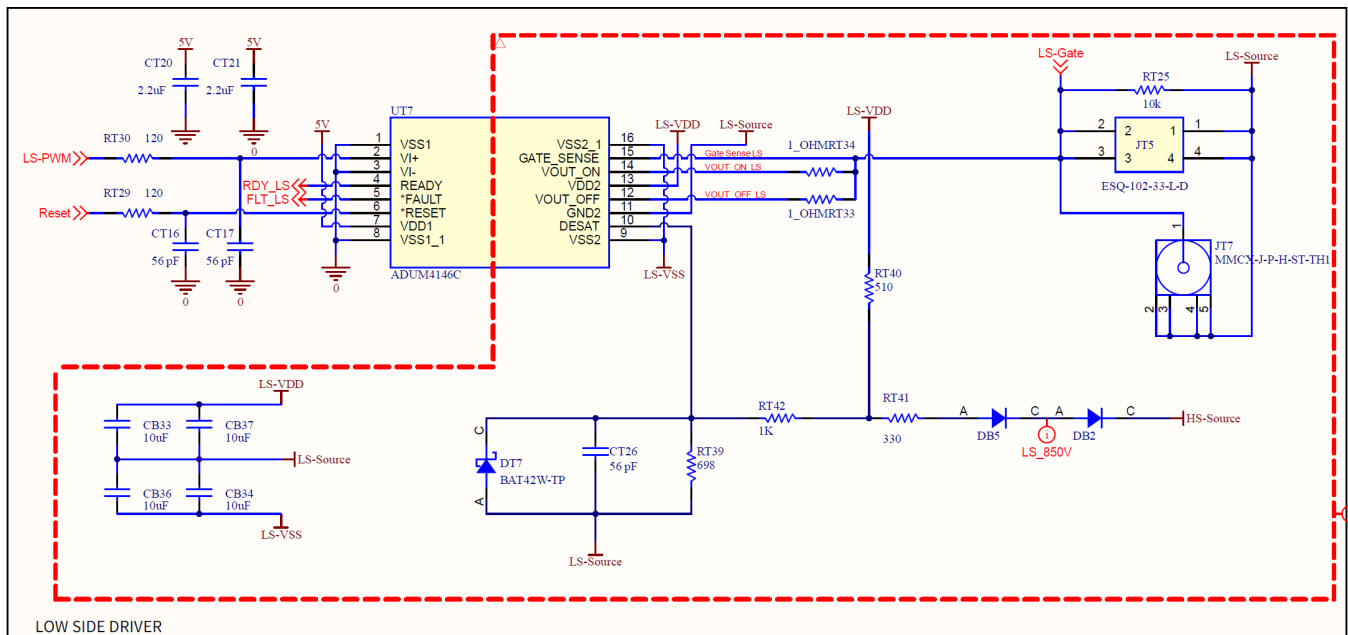
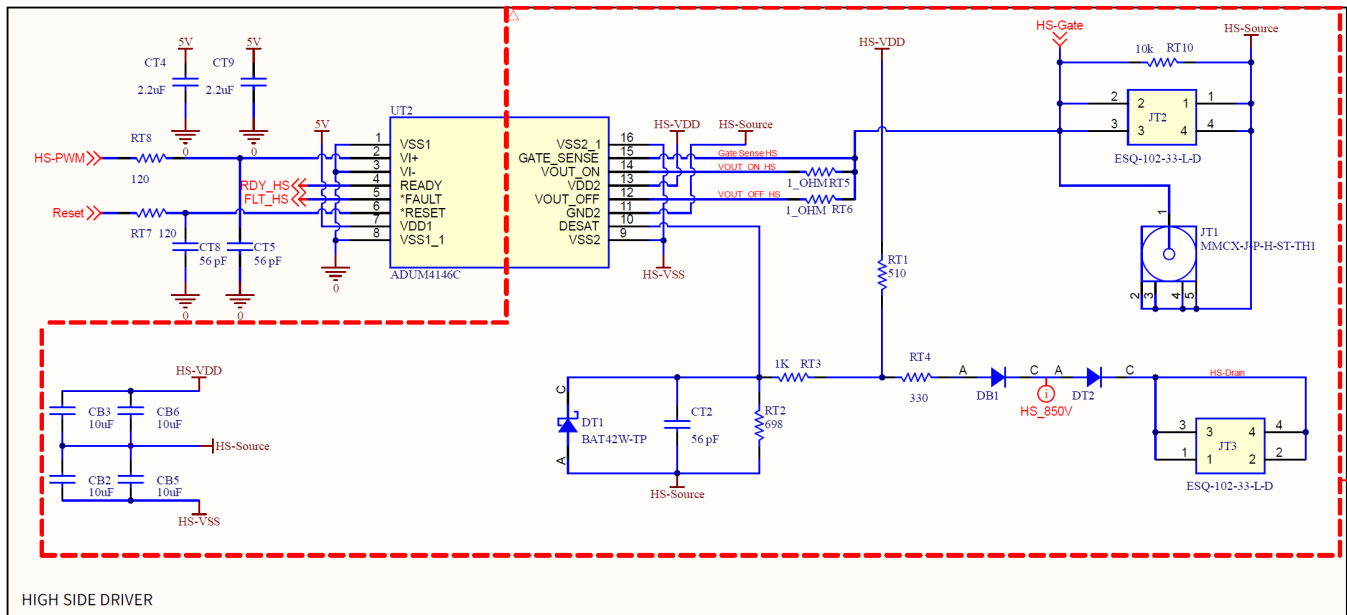
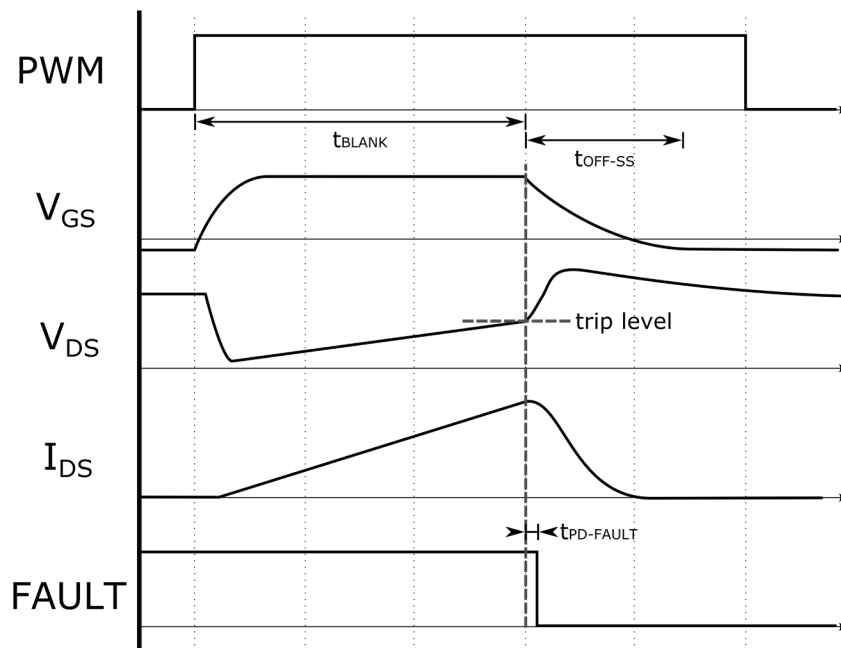
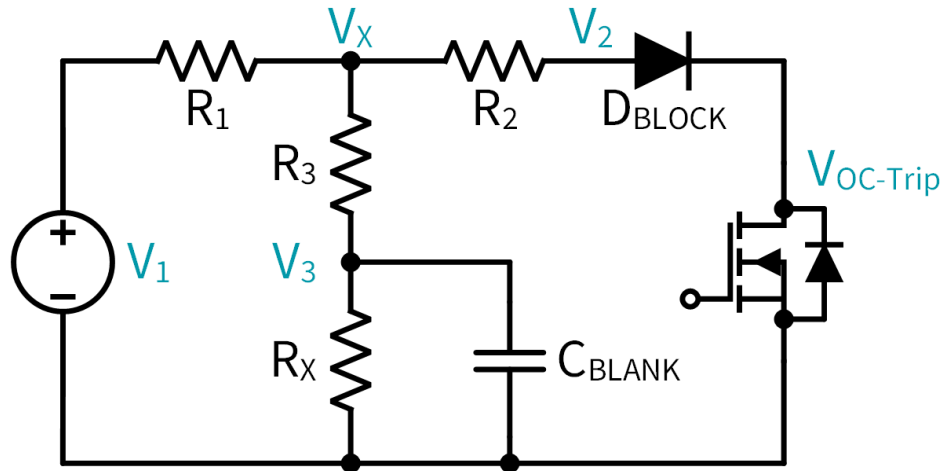

Figure 19: Low-side gate driver circuit with overcurrent protection
Figure 20: High-side gate driver circuit with overcurrent protection
Figure 21: Overcurrent fault timing diagram
Figure 22: Notional overcurrent fault circuit
An overcurrent (OC) fault is an indication of an overcurrent event in the SiC power module. The overcurrent protection circuit, shown in Figure 19 for the low-side and in Figure 20 for the high-side, measures the drain-to-source voltage (V_{DS}), and the fault will indicate if this voltage has risen above a level corresponding to the safe current limit. When a fault has occurred, the corresponding gate driver channel will be disabled, and the gate will be pulled down through a soft-shutdown resistance, R_{SS} . The drain-source limit can be configured through onboard resistors. The overcurrent fault is latched upon detection and must be cleared by the user with a high pulse of at least 500 ns on the *RESET* signal. The various timing and voltage trip levels presented in Table 2 and Section 4.4.4 are defined notionally in the timing diagram shown in Figure 21.
The OC fault detection circuit, shown in Figure 19 and Figure 20, measures the on-state V_{DS} across each switch position and triggers a fault condition if the voltage rises above the predefined set level. The circuit is simplified into the notional diagram shown in Figure 22. Referring to this figure, the intermediary voltages V_2 and V_X and the trip resistor, R_X , can be calculated using the following equations:
V_2 : intermediate voltage shown in Figure 22 [V]
V_x : intermediate voltage shown in Figure 22 [V]